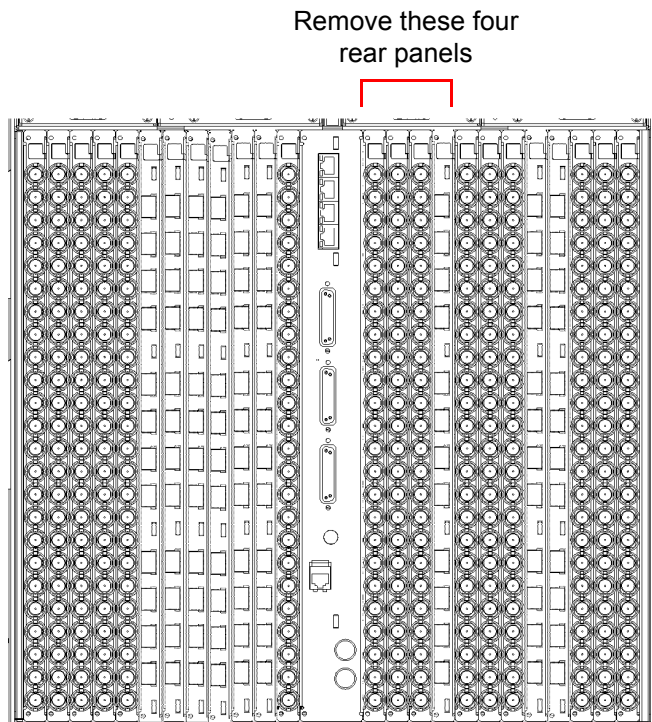

Figure 24 Example: Sirius 840 Slot Positions (Rear View)
3. Make a note of the types and slot locations of the rear panels to be removed (indicated in Figure 24) and then remove the rear panels. See section 5.3 for details on removing rear panels: